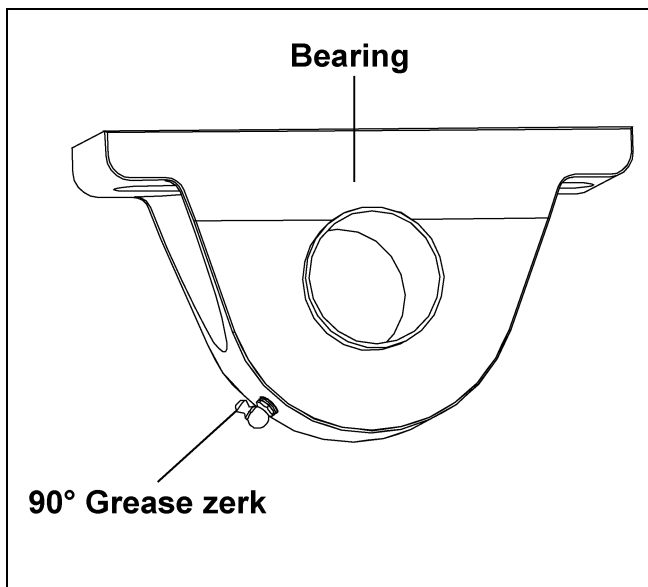

Figure 5I
- Replace standard grease zerks with 90° grease zerks on both bearings. Make sure the 90° grease zerk is turned as shown in Figure 5I, so the zerks are accessible from the center of the tractor drive stand.
- D. Attach Bottom Chain Guard Weldment to Tractor Drive Stand using 3/8" x 1-1/4" HHCS bolts, 3/8" split lock washers and 3/8" hex nuts. \(See Figure 5I on Page 30.\)